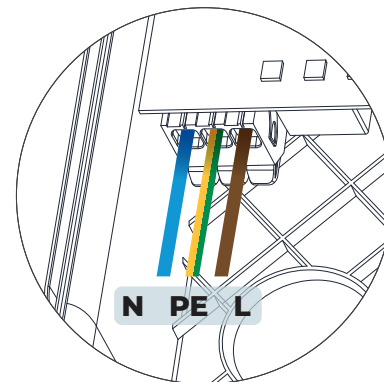

Fig. 8 - Wires succession of the power supply cable
16. Insert the 3-wires of the power supply cable into the WAGO™ connectors mounted on PCB and close each lever of the connectors. Be sure that the wires are fully inserted into the connectors, no stripped parts of the wires or strand wires must be visible (electrical protection against direct contact). Incorrect connection can result in improper contact which may cause a fire hazard. **(Fig. 8)**